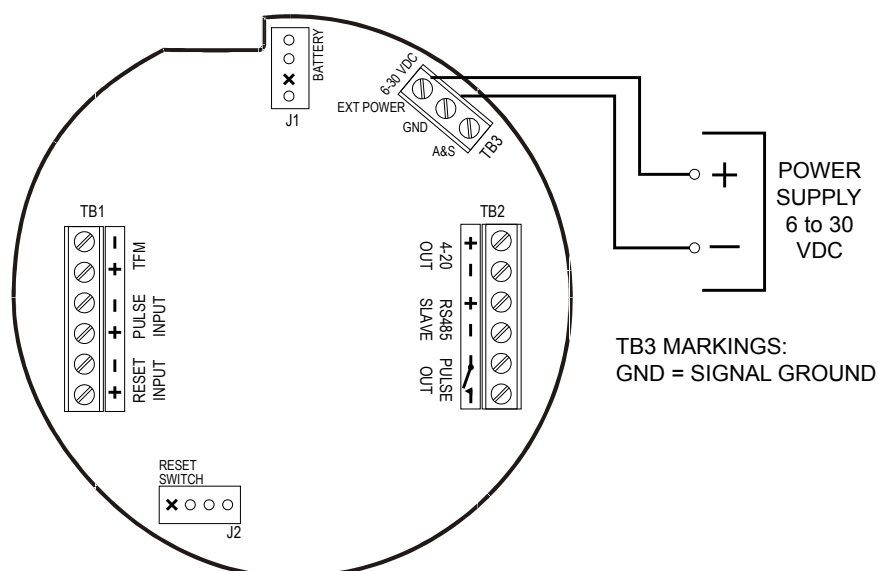

Figure 2.8—External power supply wiring
5. Connect wiring for external power, if appropriate. See Figure 2.8, page 27.
The MC-III EXP can be connected to a remote power supply by a two-conductor cable (Figure 2.8). The power supply and cable must be capable of supplying 6 to 30 VDC @ 10 mA. This capability is available only if the 4-20 mA rate output is not used.